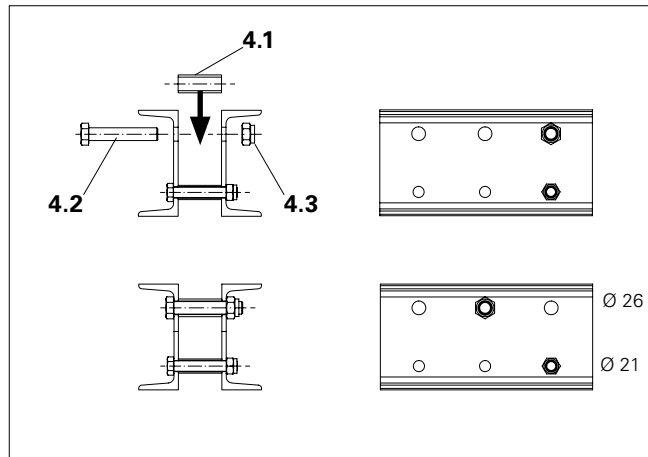

Fig. C1.02
5. Attach self-locking nut M24-8 (SW36) on the bolt and tighten. Tightening torque min. 150 Nm. (Fig. C1.02)